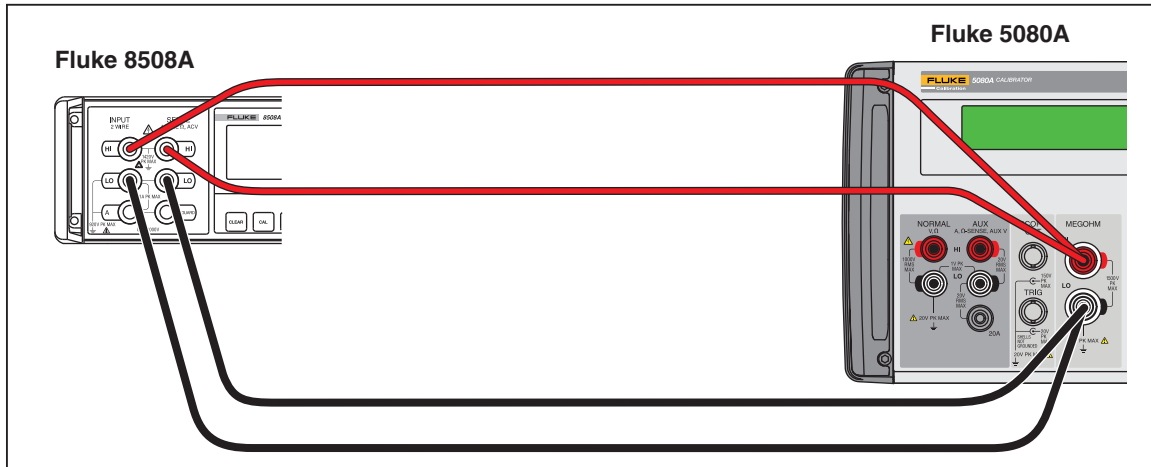

Figure 18. MEGOHM Low Resistance Calibration Connections
1. Connect the Fluke 8508A multimeter to the output terminals of the Calibrator, as shown in Figure 18.